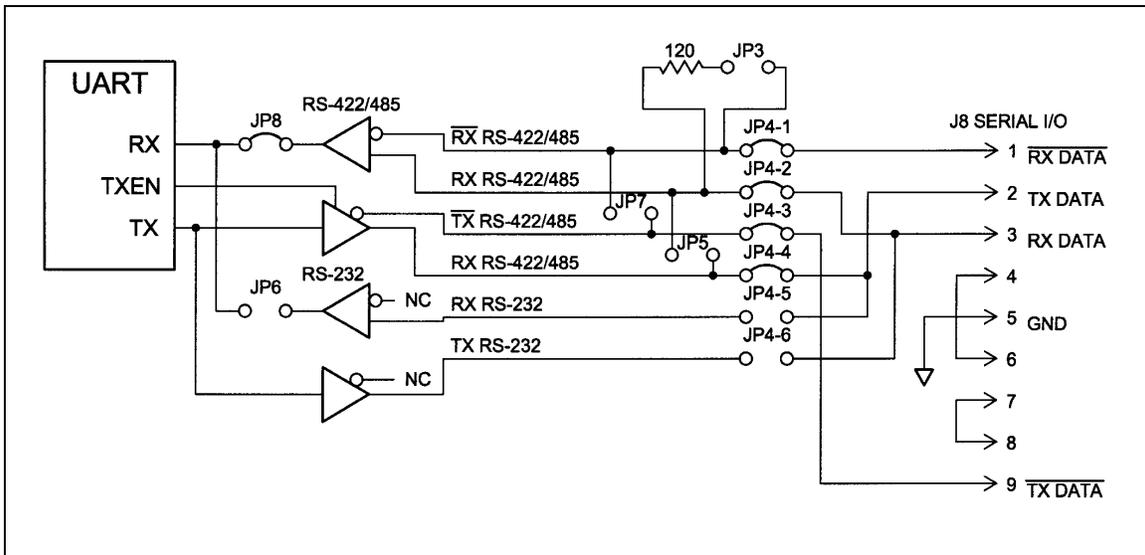

Figure 5-4. RS-422 Operator Serial I/O Configuration
**Note:** In order to obtain these signals at the output connector, the jumper configuration on the AS/3048 Controller PWB must have been performed as illustrated in Figures 5-4 through 5-7. A summary of the jumper selections is as follows: